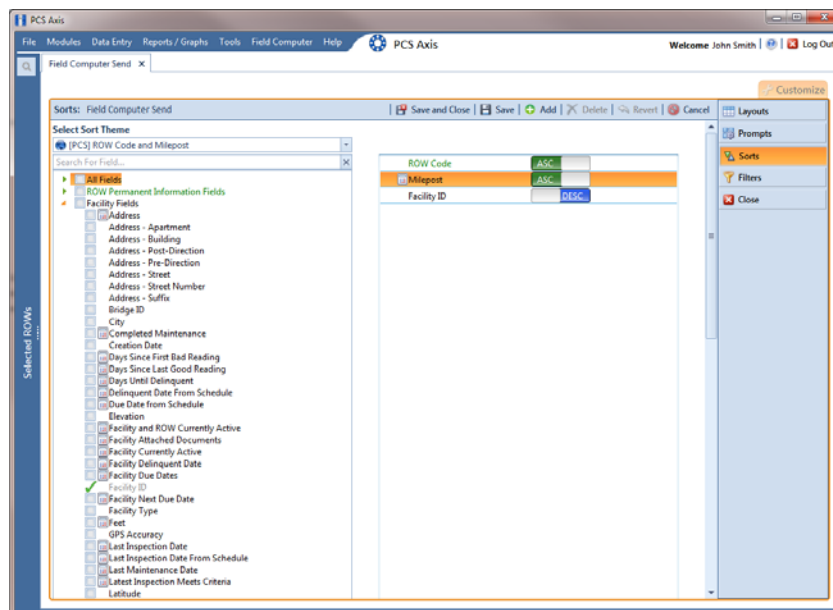

Figure 13-33. Sorts
- 8 Click  **OK** to save changes and return to the *Sorts* page (Figure 13-33, page 552).